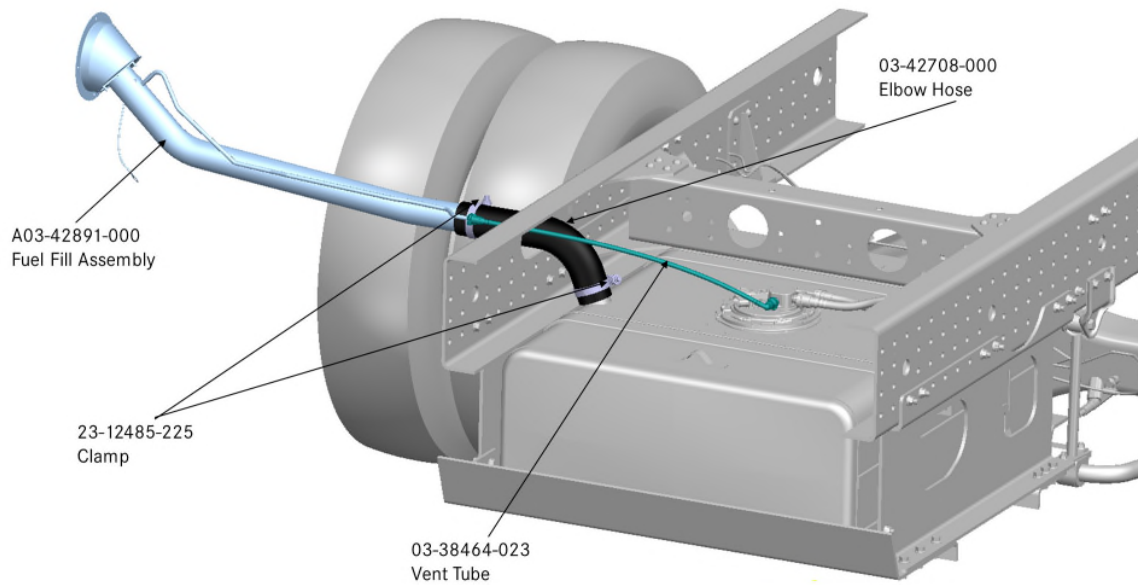

Fig.2
- Shorter end of elbow hose (03-42708-000) to fit over fill neck on tank. Ensure that elbow is seated as far as possible onto fill neck of tank. Position clamp as indicated in Fig 2.
- Insert straight pipe end of (A03-4289 1-000) into elbow hose and attach with clamp as shown in Fig.2.